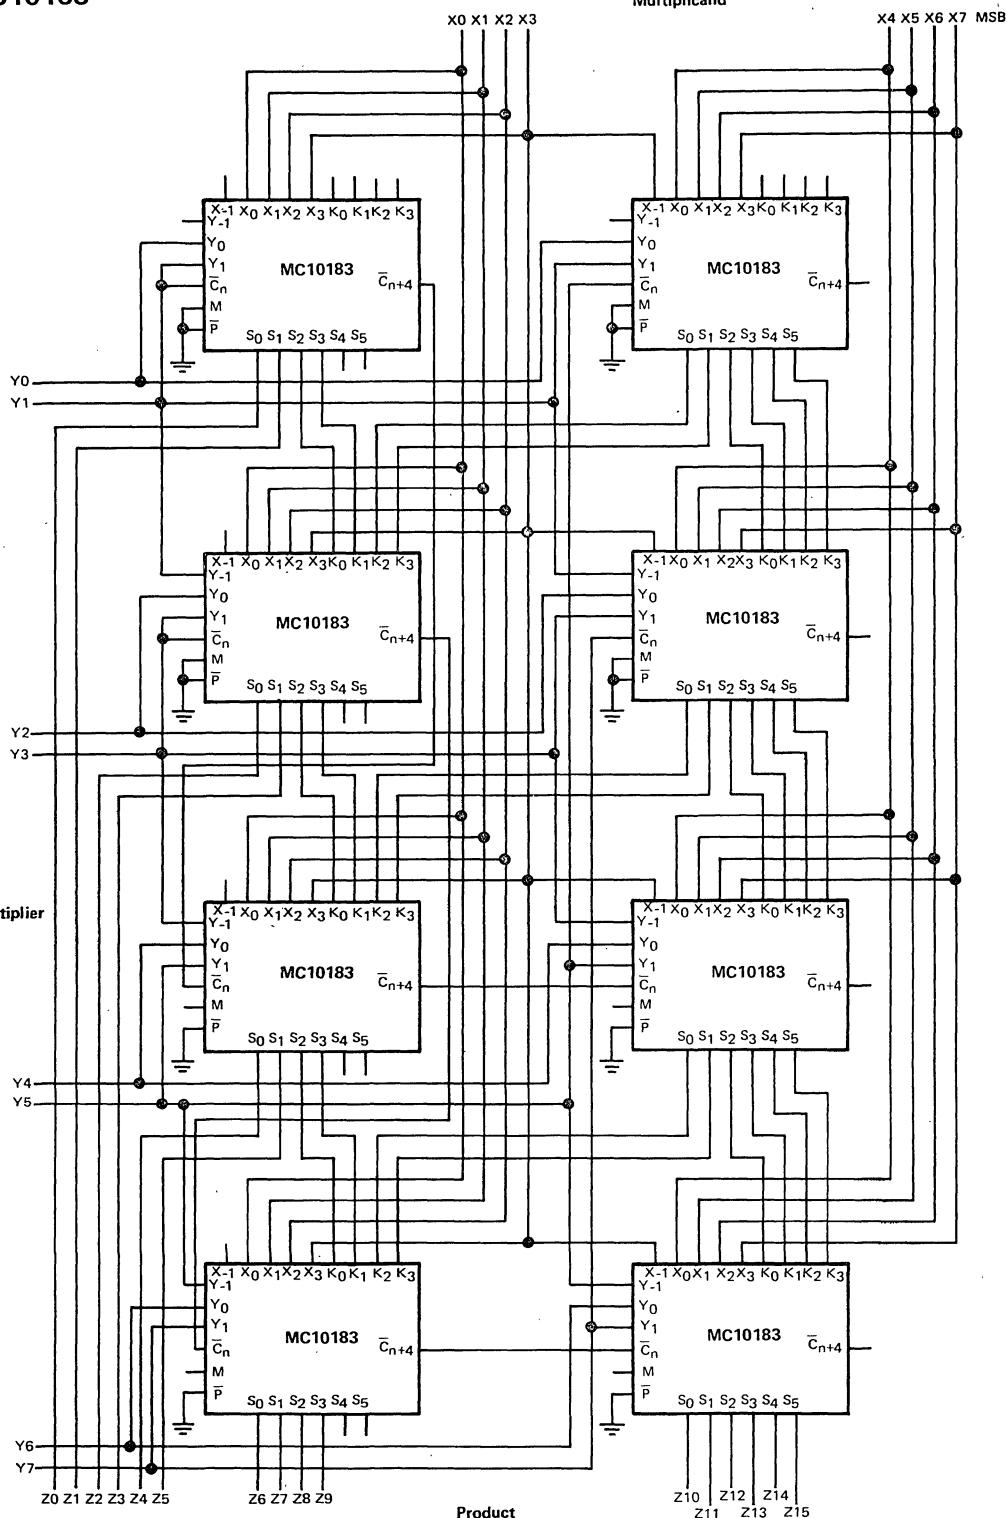

FIGURE 1 – 8-BIT X 8-BIT 2's COMPLEMENT MULTIPLIER
1. For an M-bit by N-bit multiplier, an $(M+N)$ -bit product is formed. The number of MC10183's equals $(M * N)/8$. As an example, an 8 X 8 bit (Figure 1) array requires $(8 \times 8)/8 = 8$ packages.